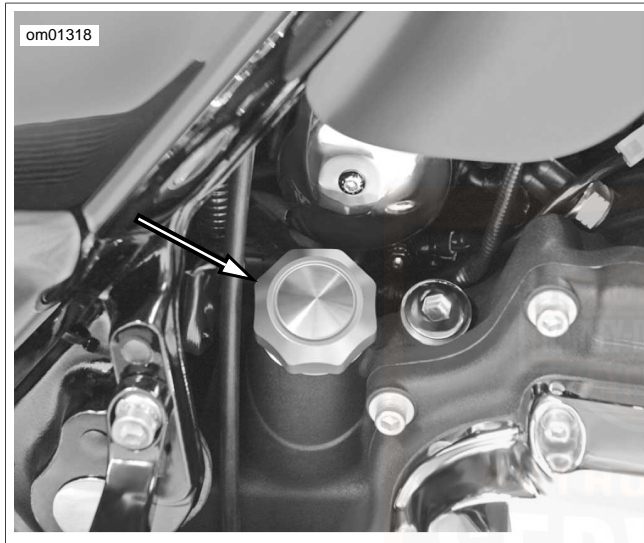

Figure 41. Engine Oil Filler Cap
2. See Figure 41. Remove filler plug/dipstick and wipe off the dipstick. Insert the dipstick and tighten into the fill spout.
3. Remove the dipstick. Using the gauge marked FULL HOT VEHICLE UPRIGHT on the dipstick, verify the oil level. The correct oil level should register midway (2) between the FULL and ADD marks on the dipstick.